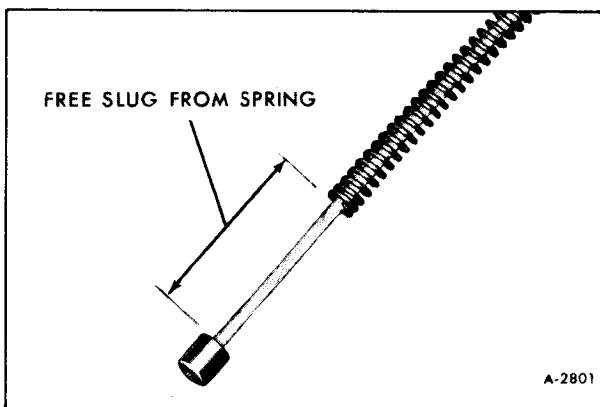

Figure 7
7. Pull parking brake cable so that end slug is free of spring, (see fig. 7) and install cable in reaction arm and backing plate.